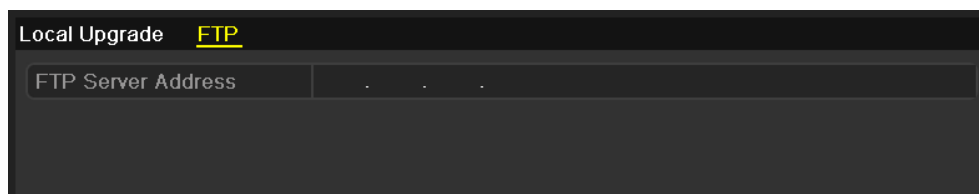

Figure 17-8 FTP Upgrade Interface
Step 2 Click the **FTP** tab to enter the local upgrade interface, as shown in Figure 17-8.